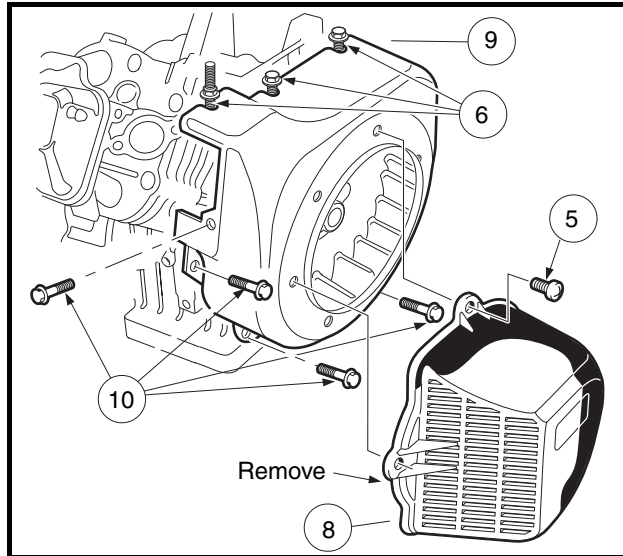

Figure 12-39 Remove Fan Housing
4. Remove the two nuts (6) and washers (3) from the stud bolts on the engine body.
7. Remove the pan head bolts (5) securing the fan shroud (8) to the fan housing (9) (**Figure 12-39, Page 12-35**).
8. Loosen, but do not remove, three bolts (6) attaching the fan housing as shown.
9. Remove the remaining four bolts (10) attaching the fan housing (**Figure 12-39, Page 12-35**), then while opening the housing, detach the spark plug wire grommet (4) from the housing (**Figure 12-41, Page 12-36**).
13. When installing fan housing, make sure the top front corner of the housing is above the upper cylinder shroud. The front edge of the fan housing should be behind the lower cylinder shroud. Align the slots in the housing with the flanged bolts (6) loosened earlier (**Figure 12-39, Page 12-35**).
14. Install the four remaining flanged bolts (10) that secure the fan housing to the engine crankcase. Tighten all seven mounting bolts (6) and (10) to 90 in-lb (10.2 N·m).
15. Install the fan shroud with four pan-head bolts (5) and tighten to 50 in-lb (5.7 N·m).